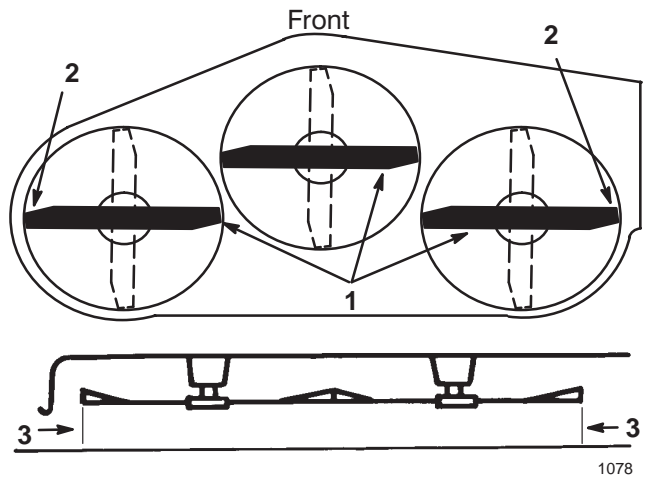

Figure 39
4. Carefully rotate the blade(s) from side to side (Fig. 39). Measure between the outside cutting edges and the flat surface (Fig. 39). If both measurements are not within 3/16 in. (4.75 mm), an adjustment is required; refer to steps 5 and 6.